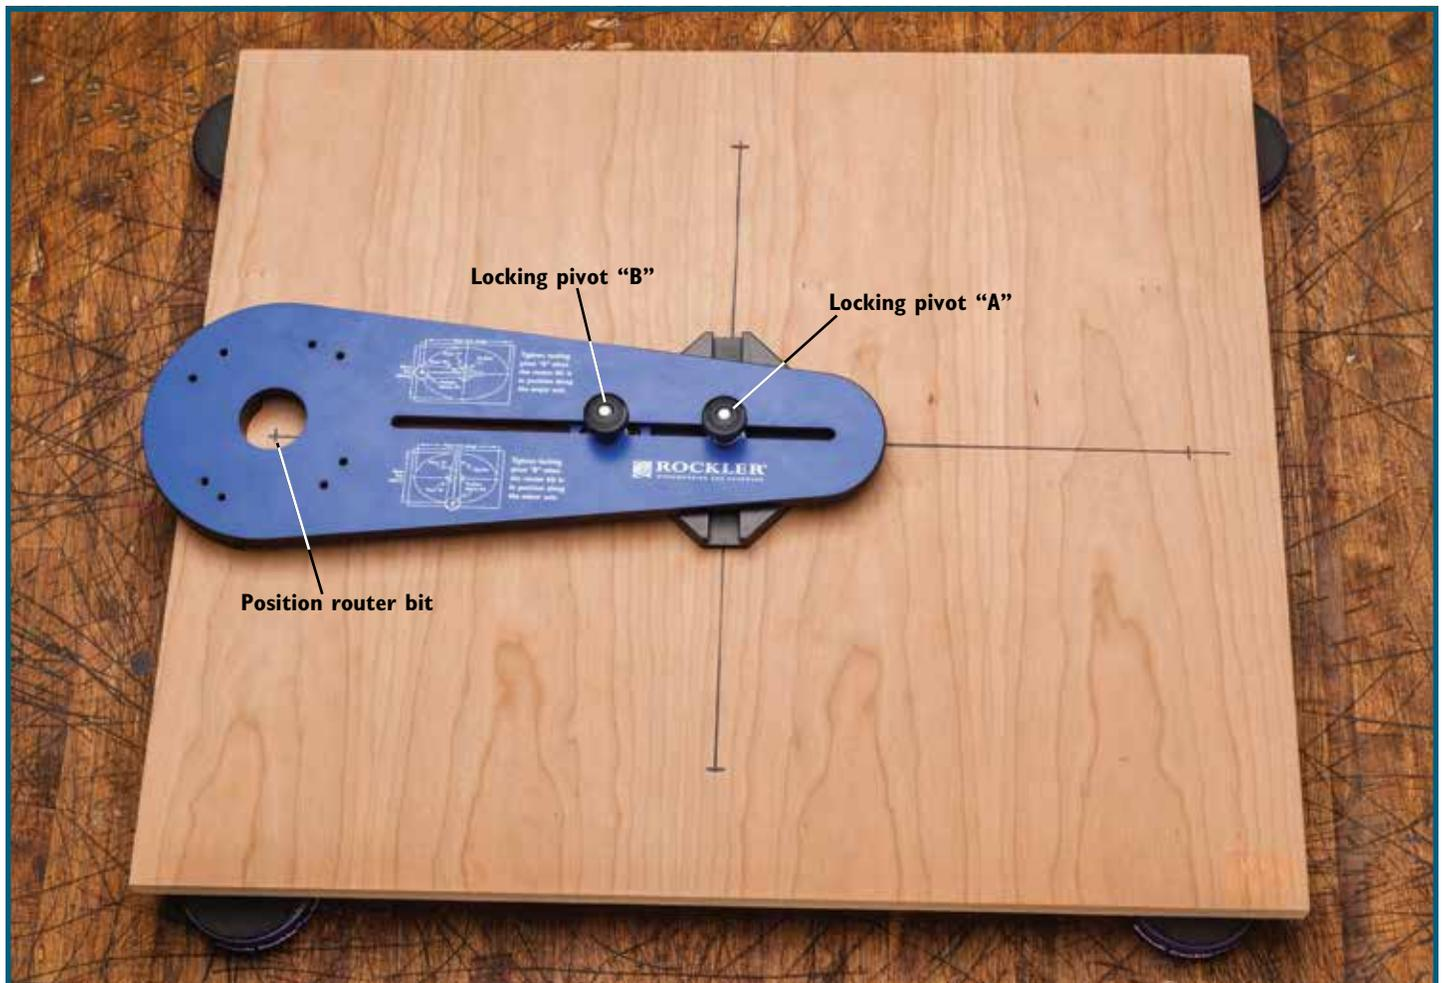

Fig. 4 - Router removed for clarity
5. Rotate the Jig Arm (1) so it's aligned with the major axis, and adjust it in or out until the bit is positioned as desired to make the cut. Tighten the Locking Pivot on Dovetail Key A. **Fig. 4.**